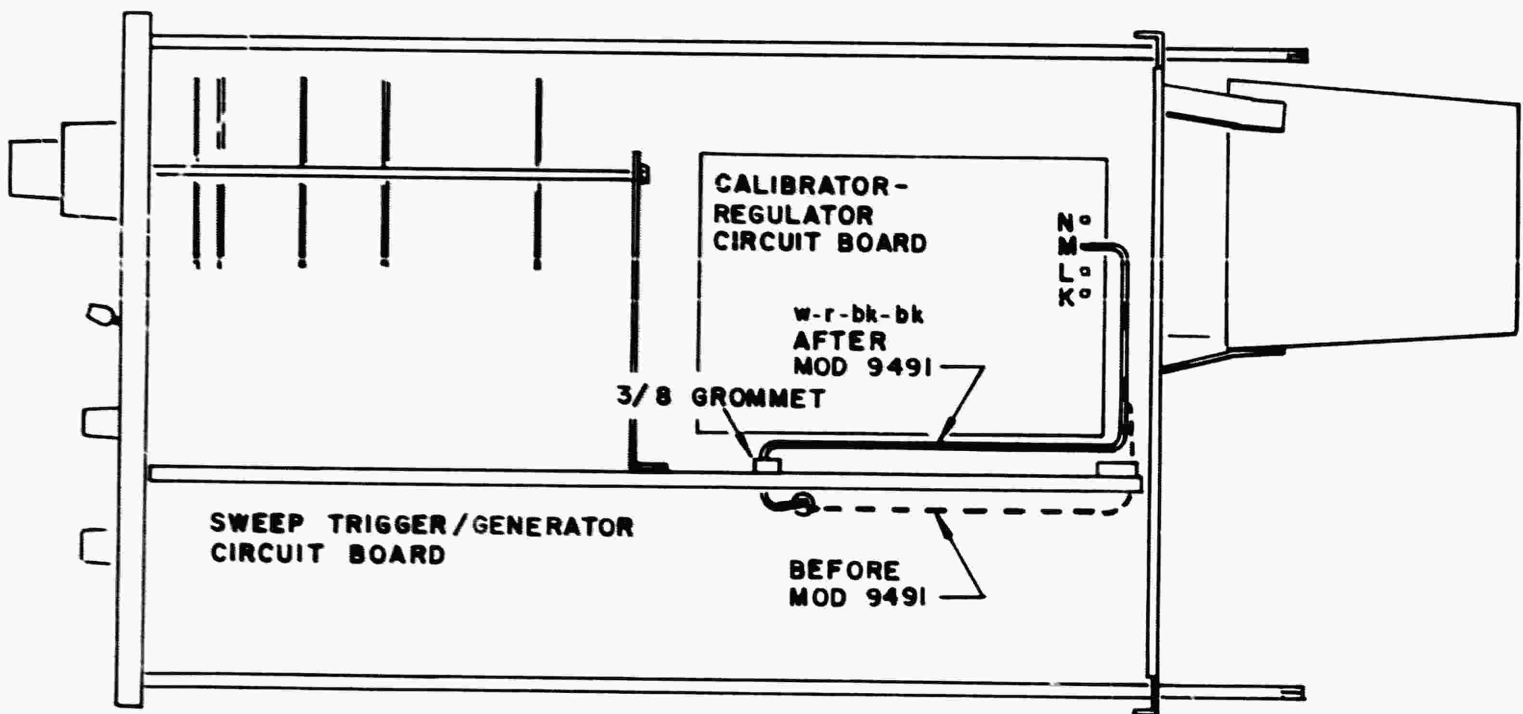

FIG. 2
- Cut the connector off of the wire immediately behind the connector and remove the wire from its cable back to the point where the cable passes below a 3/8" grommet in the instrument chassis near pin Y of the Sweep Trigger/Generator circuit board. See Fig. 2.
- Dress the wire through the 3/8" grommet and along the chassis as indicated in Fig. 2 and reinstall the wire on pin M of the Calibrator-Regulator board.